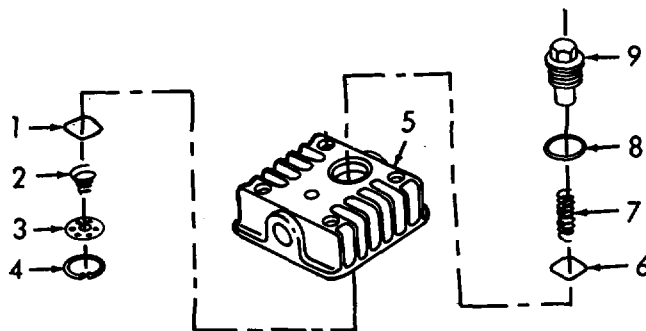

Figure 3-29. Valve Assemblies, Assembly.
f. *Assembly.* (Refer to Figure 3-29).